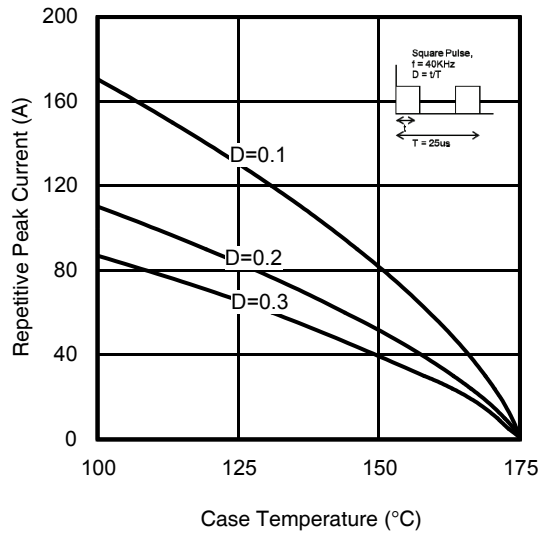

Fig 26. Maximum Diode Repetitive Forward Peak Current vs. Case Temperature
- ① V_{CC} = 80% (V_{CES}), V_{GE} = 20V, R_G = 4.7Ω, L=66μH.
- ② R_θ is measured at T_J of approximately 90°C.
- ③ Refer to AN-1086 for guidelines for measuring V_{(BR)CES} safely.
- ④ Pulse width limited by max. junction temperature.
- ⑤ Values influenced by parasitic L and C in measurement.
- ⑥ f_{sw} = 40KHz, refer to figure 26.